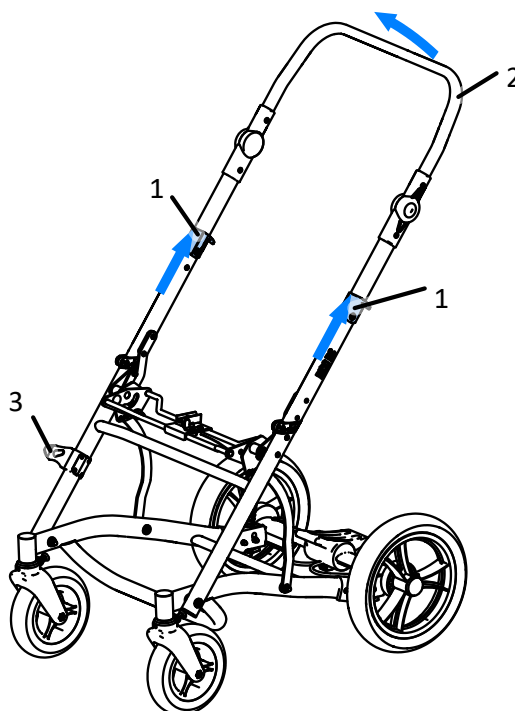

Fig. 9
Pull the handles (1) on both sides of the push handle of the stroller towards oneself, and then push the push handle (2) forward folding the frame, until the blockade (3) finally clicks Fig. 9